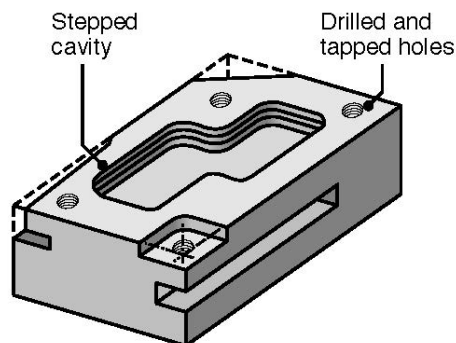

Figure Q5B : Aluminum Block
C. A semi-finished aluminum block should be machined to produce cavities/pocket and holes, as shown in Figure Q5B. Suggest the most suitable machining process to produce the cavity/pocket and holes. Explain their steps processes.